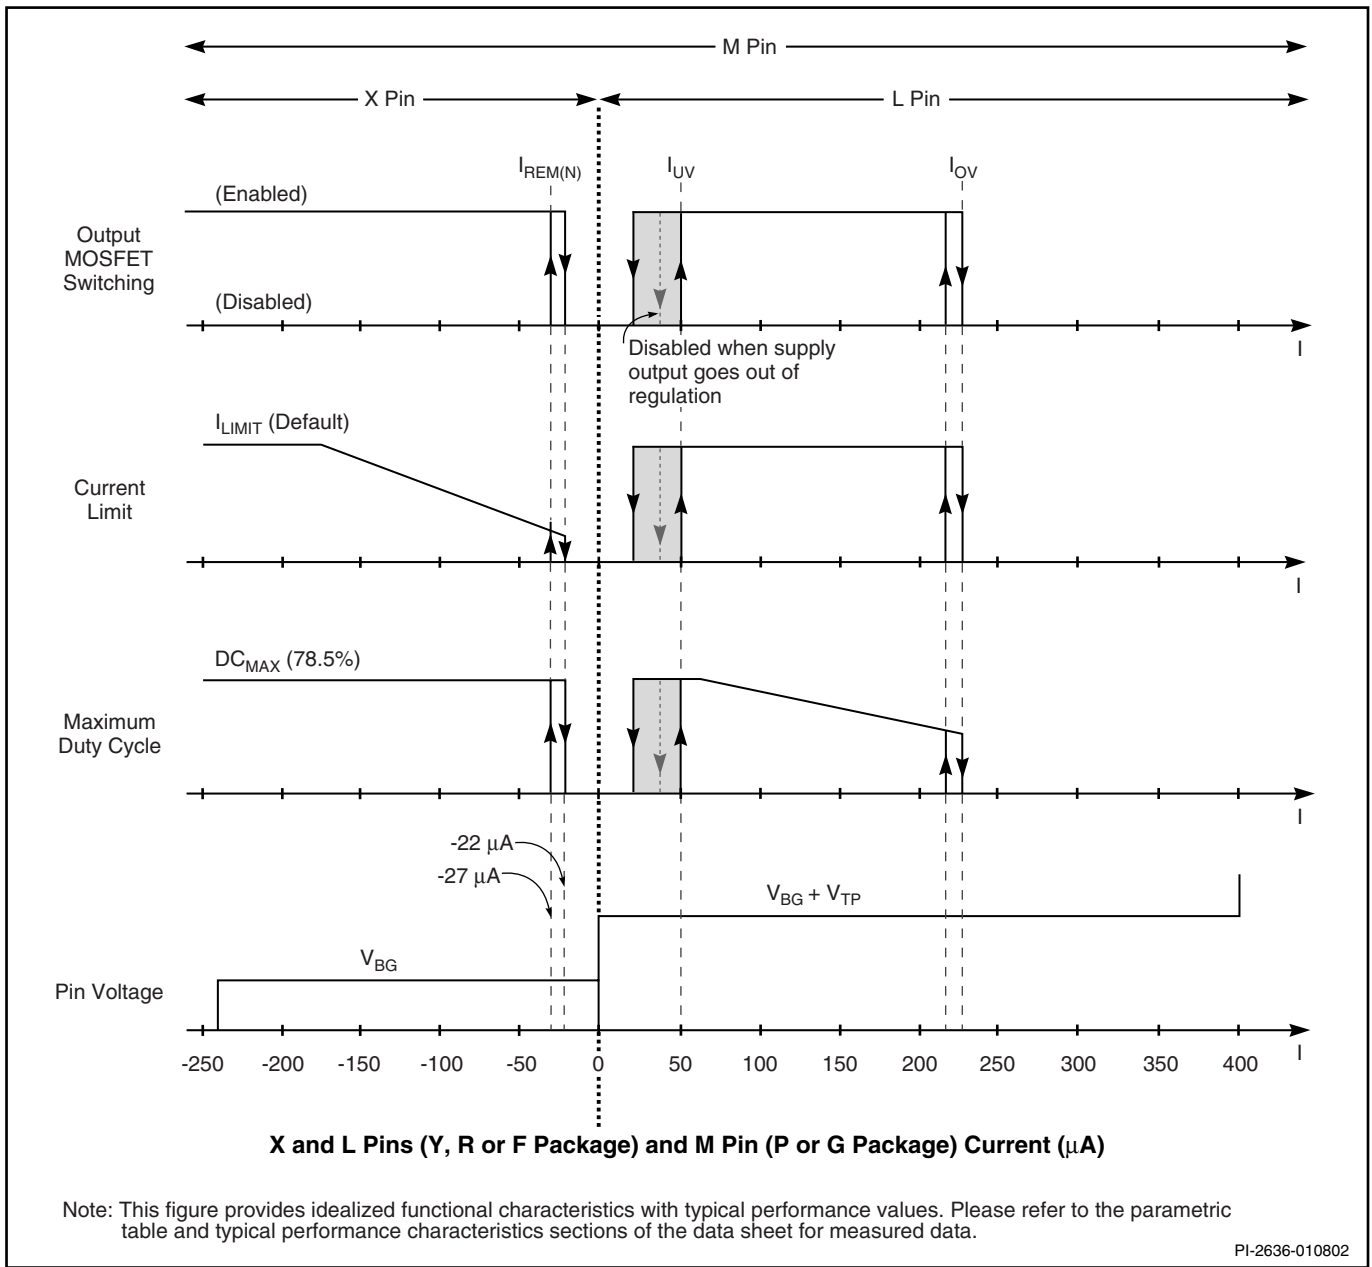
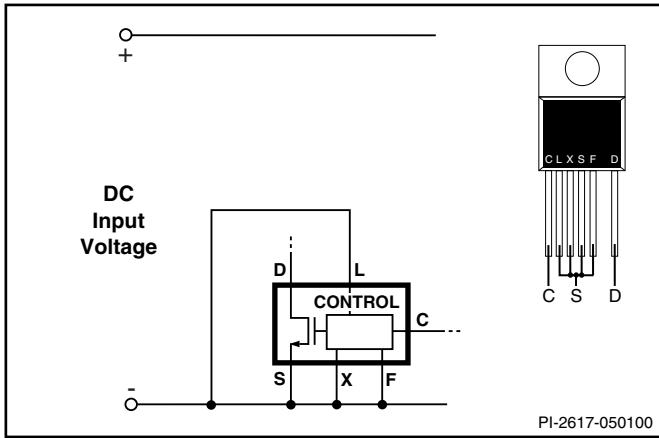
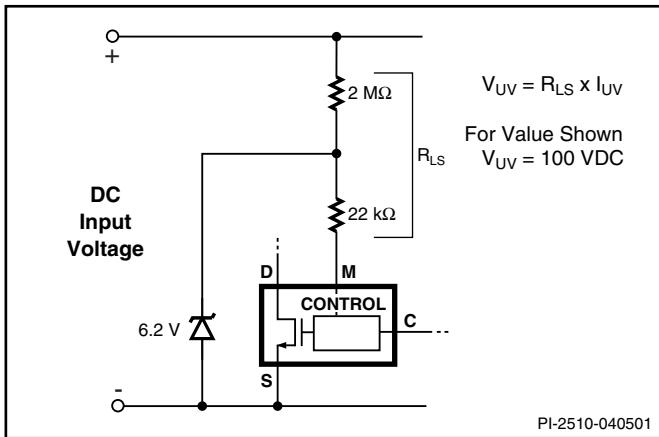
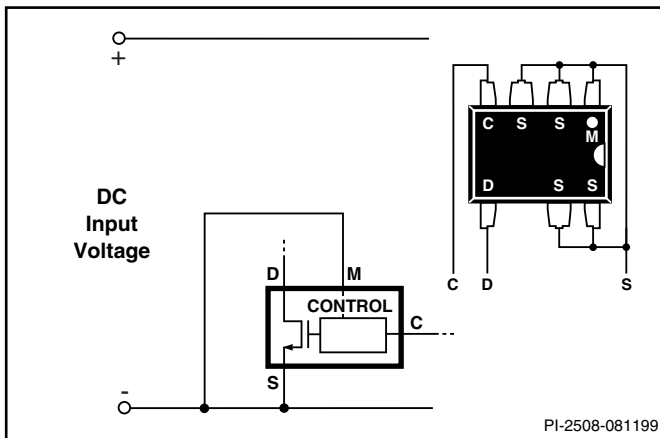

Figure 11. MULTI-FUNCTION (P or G package), LINSE-SENSE, and EXTERNAL CURRENT LIMIT (Y, R or F package) Pin Characteristics.
Figure 16. Three Terminal Operation (LINE-SENSE and EXTERNAL CURRENT LIMIT Features Disabled. FREQUENCY Pin Tied to SOURCE or CONTROL Pin).
Figure 18. Line-Sensing for Under-Voltage Only (Overvoltage Disabled).
Figure 30. Three Terminal Operation (MULTIFUNCTION Features Disabled).
The LINE-SENSE (L) pin is usually used for line sensing by connecting a resistor from this pin to the rectified DC high voltage bus to implement line overvoltage (OV), under-voltage (UV) and line feed-forward with DC_{MAX} reduction. In this mode, the value of the resistor determines the OV/UV thresholds and the DC_{MAX} is reduced linearly starting from a line voltage above the under-voltage threshold. See Table 2 and Figure 11.
The EXTERNAL CURRENT LIMIT (X) pin is usually used to reduce the current limit externally to a value close to the operating peak current, by connecting the pin to SOURCE through a resistor. This pin can also be used as a remote ON/OFF and a synchronization input in both modes. See Table 2 and Figure 11.
The maximum duty cycle, DC_{MAX} , is set at a default maximum value of 78% (typical). However, by connecting the LINE-SENSE or MULTI-FUNCTION pin (depending on the package) to the rectified DC high voltage bus through a resistor with appropriate value, the maximum duty cycle can be made to decrease from 78% to 38% (typical) as shown in Figure 11 when input line voltage increases (see line feed forward with DC_{MAX} reduction).
The same resistor used for UV also sets an overvoltage threshold which, once exceeded, will force *TOPSwitch-GX* output into off-state. The ratio of OV and UV thresholds is preset at 4.5 as can be seen in Figure 11. When the MOSFET is off, the rectified DC high voltage surge capability is increased to the voltage rating of the MOSFET (700 V), due to the absence of the reflected voltage and leakage spikes on the drain. A small amount of hysteresis is provided on the OV threshold to prevent noise triggering. The OV feature can be disabled independent of the UV feature as shown in Figures 18 and 32.
feature, the maximum duty cycle DC_{MAX} is also reduced from 78% (typical) at a voltage slightly higher than the UV threshold to 30% (typical) at the OV threshold (see Figure 11). Limiting DC_{MAX} at higher line voltages helps prevent transformer saturation due to large load transients in forward converter applications. DC_{MAX} of 38% at the OV threshold was chosen to ensure that the power capability of the *TOPSwitch-GX* is not restricted by this feature under normal operation.
TOPSwitch-GX can be turned on or off by controlling the current into the LINE-SENSE pin or out from the EXTERNAL CURRENT LIMIT pin (Y, R or F package) and into or out from the MULTI-FUNCTION pin (P or G package) (see Figure 11). In addition, the LINE-SENSE pin has a 1 V threshold comparator connected at its input. This voltage threshold can also be used to perform remote ON/OFF control. This allows easy implementation of remote ON/OFF control of *TOPSwitch-GX* in several different ways. A transistor or an optocoupler output connected between the EXTERNAL CURRENT LIMIT or LINE-SENSE pins (Y, R or F package) or the MULTI-FUNCTION pin (P or G package) and the SOURCE pin implements this function with “active-on” (Figures 22, 29 and 36) while a transistor or an optocoupler output connected between the LINE-SENSE pin (Y, R or F package) or the MULTI-FUNCTION (P or G package) pin and the CONTROL pin implements the function with “active-off” (Figures 23 and 37).
There are a total of four functions available through the use of the LINE-SENSE pin: OV, UV, line feed-forward with DC_{MAX} reduction, and remote ON/OFF. Connecting the LINE-SENSE pin to the SOURCE pin disables all four functions. The LINE-SENSE pin is typically used for line sensing by connecting a resistor from this pin to the rectified DC high voltage bus to implement OV, UV and DC_{MAX} reduction with line voltage. In this mode, the value of the resistor determines the line OV/UV thresholds, and the DC_{MAX} is reduced linearly with rectified DC high voltage starting from just above the UV threshold. The pin can also be used as a remote ON/OFF and a synchronization input. Refer to Table 2 for possible combinations of the functions with example circuits shown in Figure 16 through Figure 40. A description of specific functions in terms of the LINE-SENSE pin I/V characteristic is shown in Figure 11 (right hand side). The horizontal axis represents LINE-SENSE pin current with positive polarity indicating currents flowing into the pin. The meaning of the vertical axes varies with functions. For those that control the ON/OFF states of the output such as UV, OV and remote ON/OFF, the vertical axis represents the enable/disable states of the output. UV triggers at I_{UV} (+50 μ A typical with 30 μ A hysteresis) and OV triggers at I_{OV} (+225 μ A typical with 8 μ A hysteresis). Between the UV and OV thresholds, the output is enabled. For line feed-forward with
There are two functions available through the use of the EXTERNAL CURRENT LIMIT pin: external current limit and remote ON/OFF. Connecting the EXTERNAL CURRENT LIMIT pin and SOURCE pin disables the two functions. In high efficiency applications, this pin can be used to reduce the current limit externally to a value close to the operating peak current by connecting the pin to the SOURCE pin through a resistor. The pin can also be used for remote ON/OFF. Table 2 shows several possible combinations using this pin. See Figure 11 for a description of the functions where the horizontal axis (left hand side) represents the EXTERNAL CURRENT LIMIT pin current. The meaning of the vertical axes varies with function. For those that control the ON/OFF states of the output such as remote ON/OFF, the vertical axis represents the enable/disable states of the output. For external current limit, the vertical axis represents the magnitude of the I_{LIMIT} . Please see graphs in the Typical Performance Characteristics section for the current limit programming range and the selection of appropriate resistor value.
be used as a remote ON/OFF and a synchronization input in both modes. Please refer to Table 3 for possible combinations of the functions with example circuits shown in Figure 30 through Figure 40. A description of specific functions in terms of the MULTI-FUNCTION pin I/V characteristic is shown in Figure 11. The horizontal axis represents MULTI-FUNCTION pin current with positive polarity indicating currents flowing into the pin. The meaning of the vertical axes varies with functions. For those that control the ON/OFF states of the output such as UV, OV and remote ON/OFF, the vertical axis represents the enable/disable states of the output. UV triggers at I_{UV}